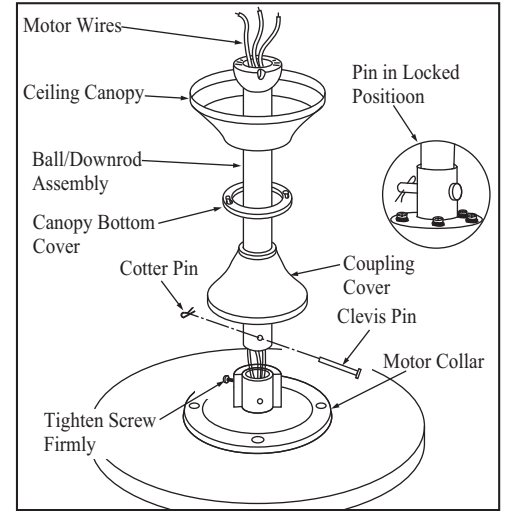

Figure 6
3. Remove the clevis pin, cotter pin and set screws from the top of the motor assembly. (Figure 6)
4. Route wires exiting from the top of the fan motor through the coupling cover, canopy cover, canopy and then through the ball/downrod. (Figure 6)
5. Align the holes at the bottom of the downrod with the holes in the coupling on top of the motor housing (Figure 6). Carefully insert the
clevis pin through the holes in the collar and downrod. Be careful not to jam the clevis pin against the wiring inside the downrod. Insert the cotter pin through the hole near the end of the clevis pin until it snaps into its locked position, as noted in the circle inset of Fig. 6.
6. Tighten two set screws at top of the fan motor collar firmly and evenly. (Fig. 6)